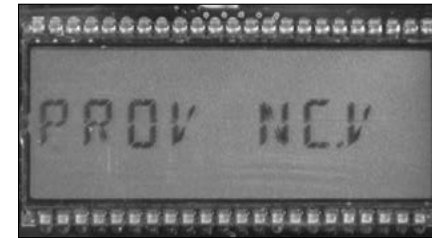

Figure 6 - LCD screen displays PROV NC.V
- Swipe the magnet across the "Swipe" line until the screen displays PROV NC.V (Figure 6), and then stop swiping.